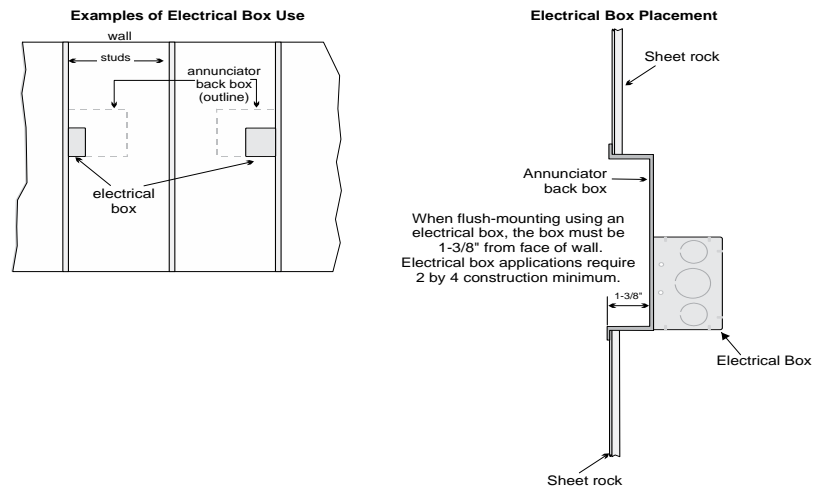

Figure 4.23 Placement of Electrical Box for Flush Mounting
1. Cut a hole in the sheet rock to the following dimensions: 8-1/4" W x 6-5/8"H. If an electrical box is used, the box must be 1-3/8" back from face of wall to accommodate the annunciator (see Figure 4.23).